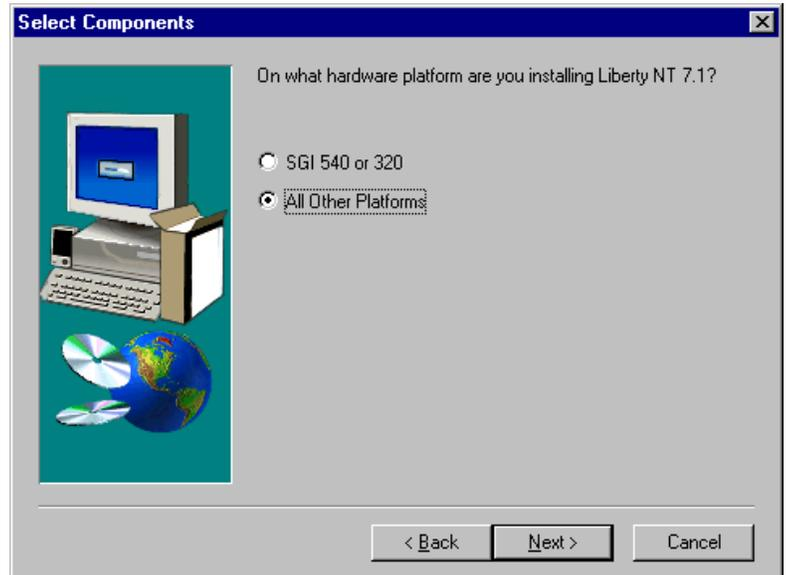

Figure 2-3. Select Platform
During the installation process, you will have an opportunity to check the amount of disk space that is available on the drive you have selected as the destination for Liberty files (Figure 2-3). A warning will appear if the designated drive lacks the necessary space for the installation.
- [] 4. InstallShield gives you the opportunity to specify on which platform you are installing Liberty (Figure 2-3). Select SGI 540 or 320 if your NT Workstation is one of these. If your workstation is not an SGI 540 or 320, choose All Other Platforms.